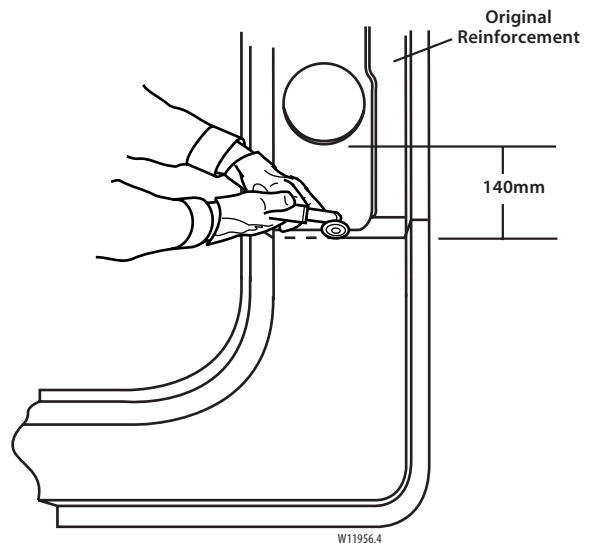

Figure 6-4:
4. On the original reinforcement panel, measure 140mm (5½ inches) down from the large wiring harness hole in the hinge pillar and mark a horizontal line. Cut the hinge pillar along this line (figure 6-4).